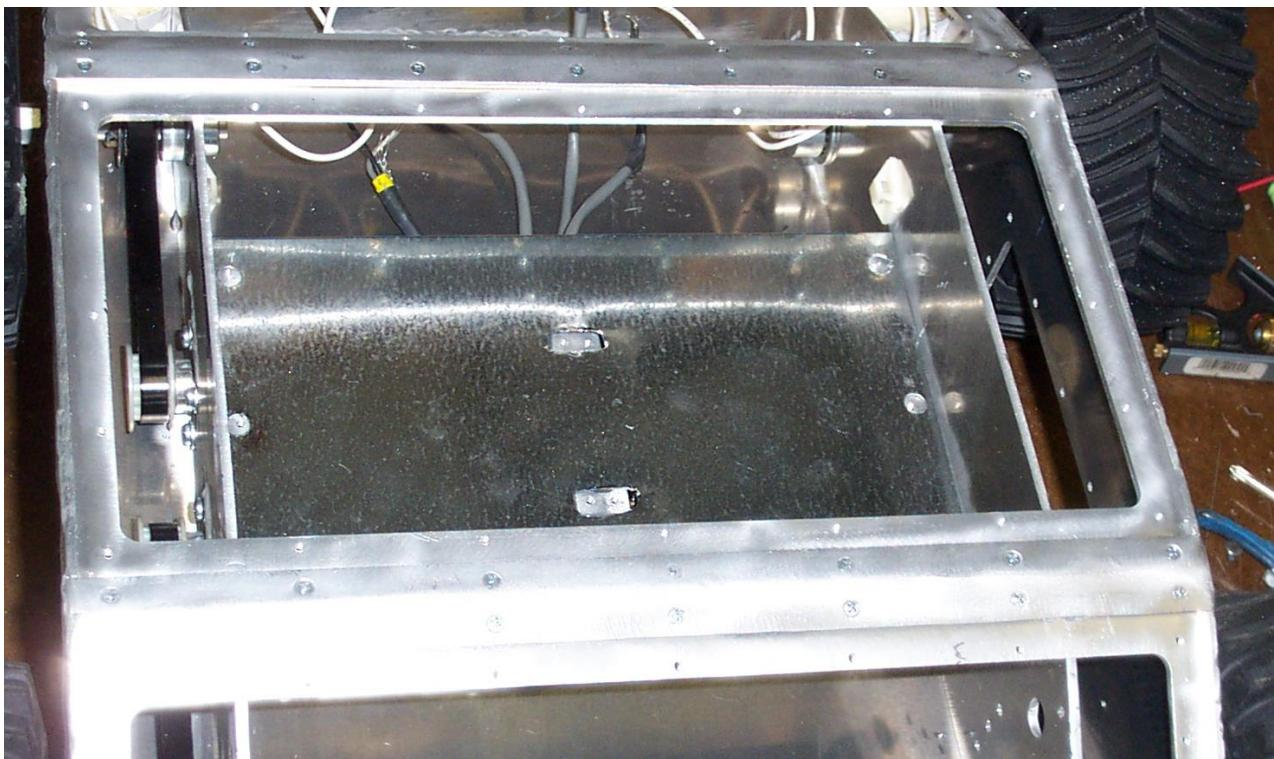

Figure 23: Enclosed ATR motor EMF shield
3. Mount the bent metal EMF shield over the motors. Cut outs will be needed for the holes to mount the top plates. Wires cutouts will also be needed on whatever side you plan on putting the motor controller(s). Refer to Figure 23